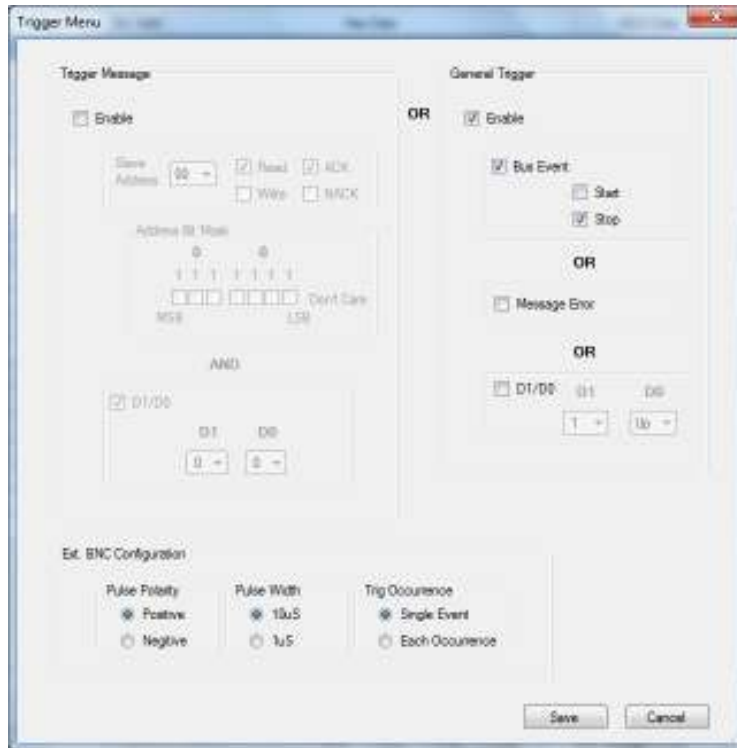

Figure 3. Trigger Menu
2. At the menu bar, open the Trigger Menu by selecting **Setup**, then **Trigger**. The Trigger Menu is now displayed. (See Figure 3)